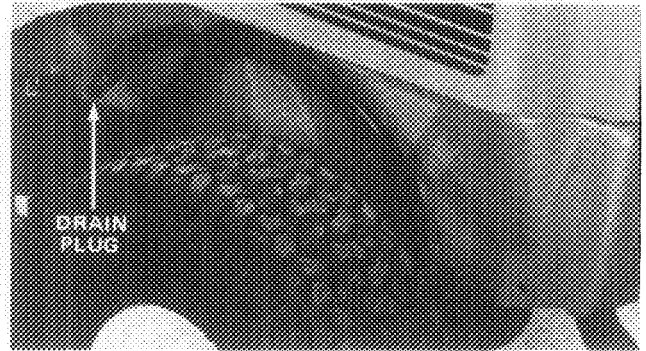

Figure 17
- B. Turn engine off and place drain pan below drain plug (Fig. 17). Remove drain plug and allow all oil to flow into drain pan. Install drain plug after oil stops flowing.